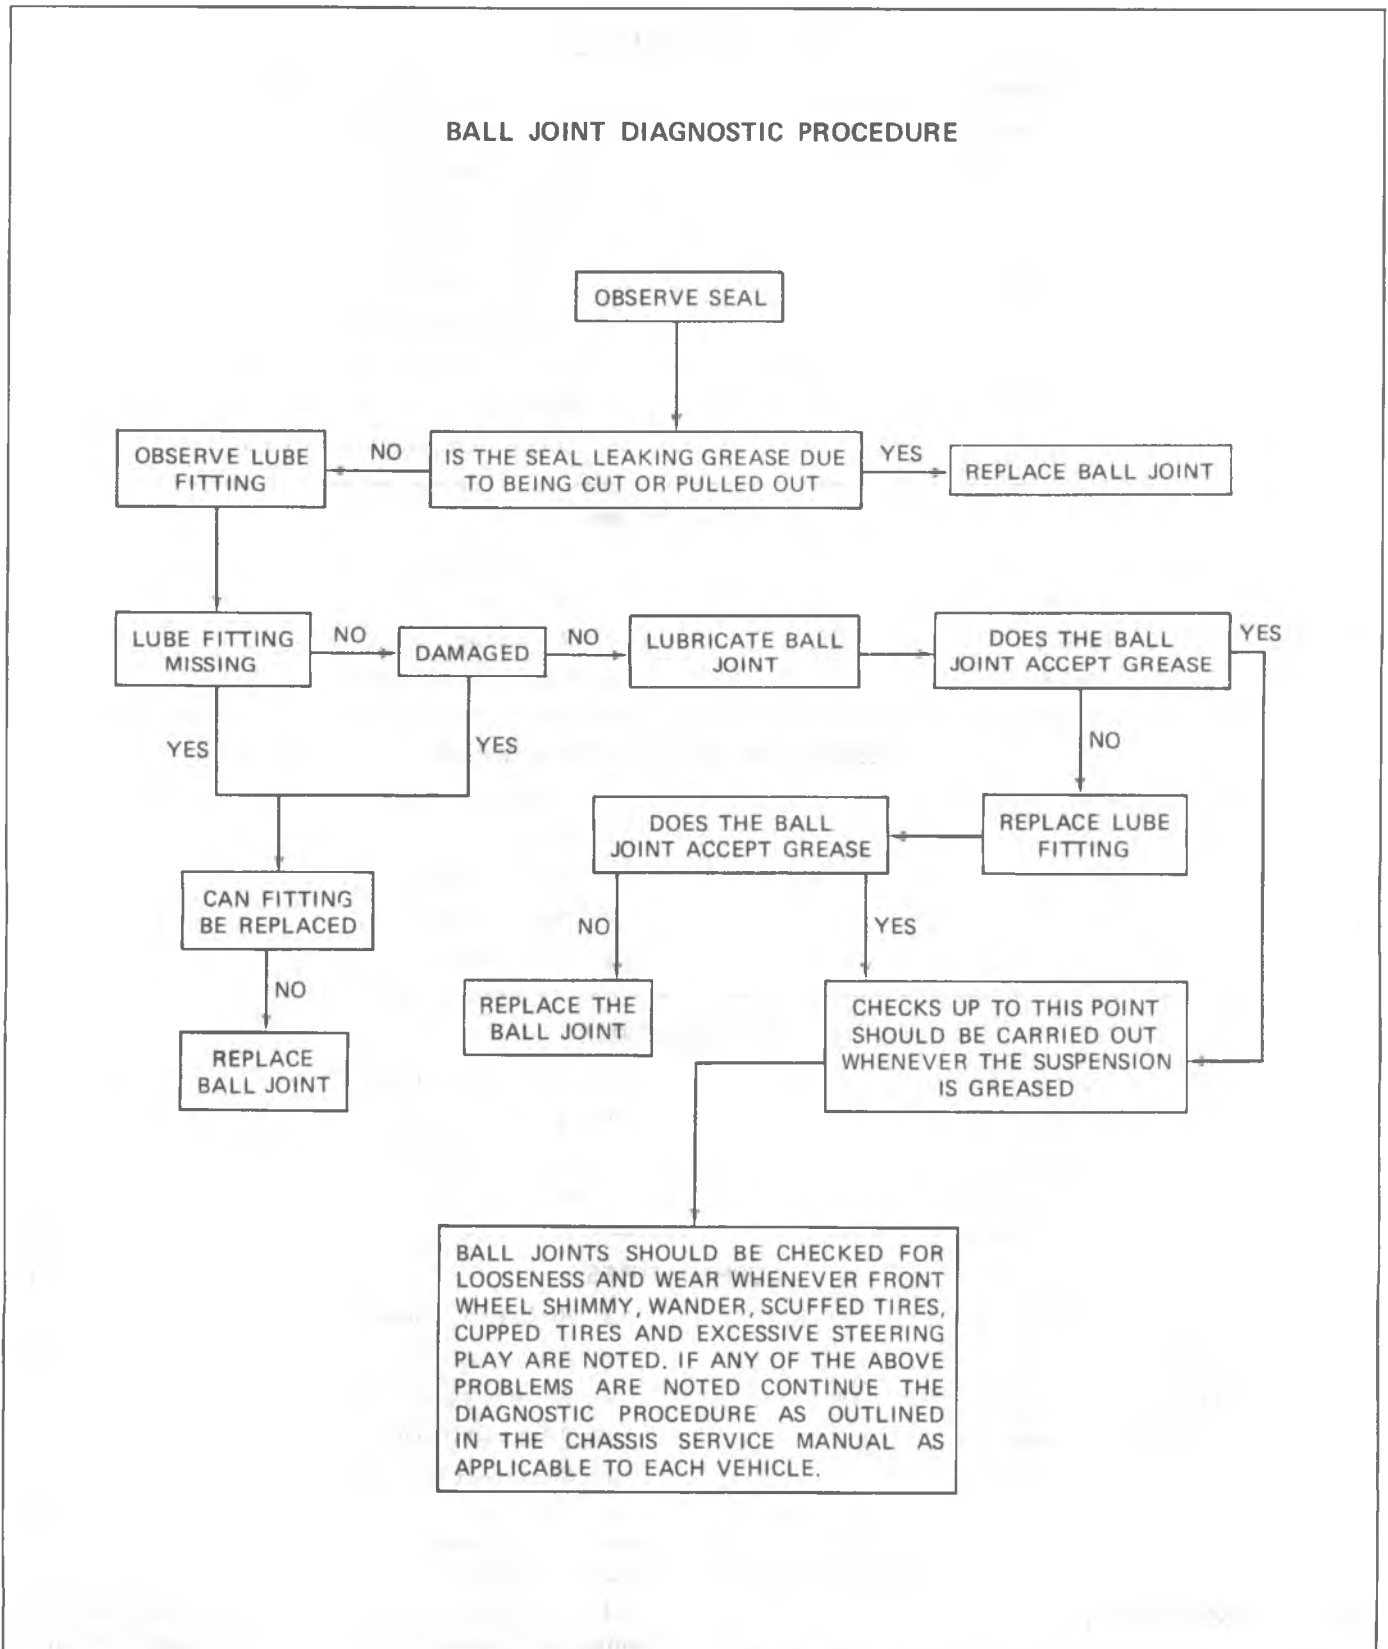

Fig. 3C-7--Ball Joint Diagnostic Procedure
- (b) Inspect shocks for leaks in seal cover area. Shock fluid is a very thin hydraulic fluid and has a characteristic odor and dark brown tint (Figure 3C-8).